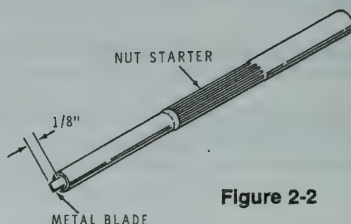

Figure 2-2
- () Refer to Figure 2-2 and use a pair of pliers to push the 1" steel blade into the smaller end of the nut starter until 1/8" remains exposed. Use this tool when you are instructed to adjust trimmer capacitors.